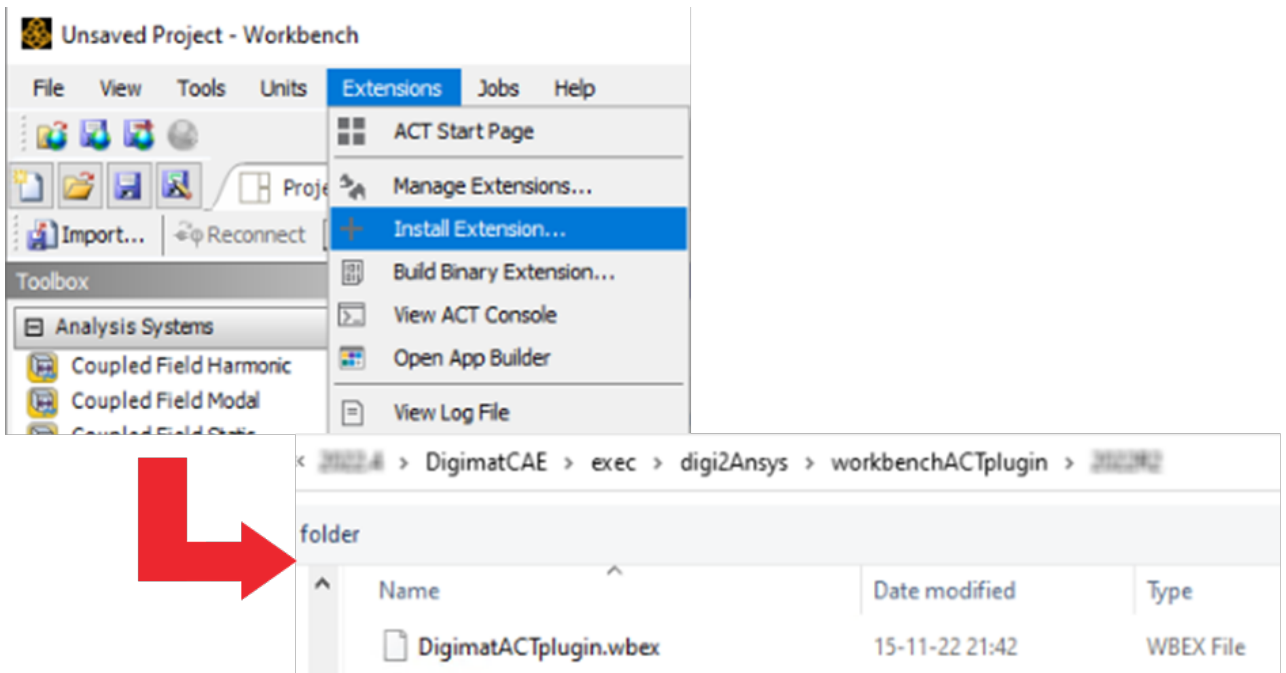

Figure 4-6 Installing the DigmatACTplugin extension for ANSYS Workbench.
2. Browse the Extensions menu and select **Install Extension...** (Figure 4-6).